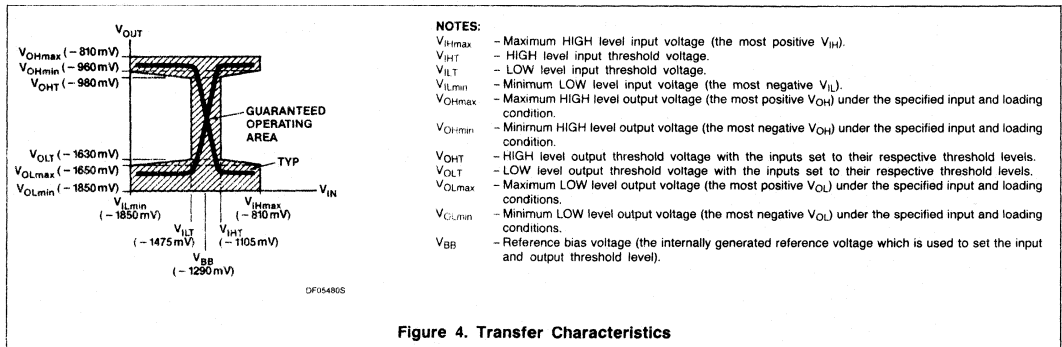

Figure 4. Transfer Characteristics
- The specified limits shown in the DC Characteristics can be met only after thermal equilibrium has been established. Thermal equilibrium is established by applying power for at least 2 minutes while maintaining transverse air flow of 2.5 meters/s (500 linear feet/min) over the device either mounted in the test socket or on the printed circuit board. Test voltage values are given in the DC Operating Conditions and defined in Figure 4.